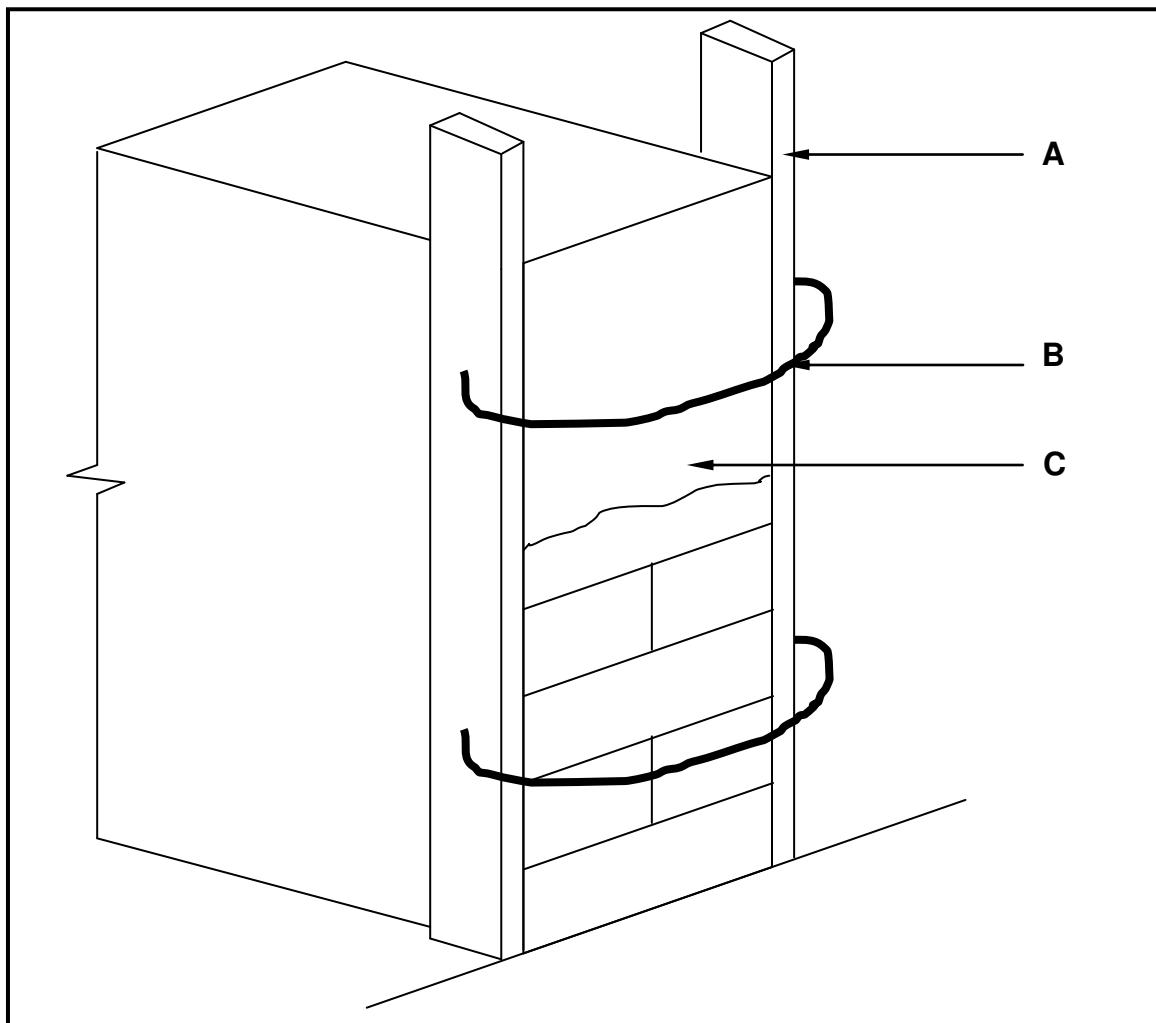

FIGURE 5.3
- 5.3 FIGURE 5.3 below is a drawing of a construction process. Study FIGURE 5.3 and answer the questions that follow.
- 5.3.2 What type of construction process is demonstrated in FIGURE 5.3? (1)